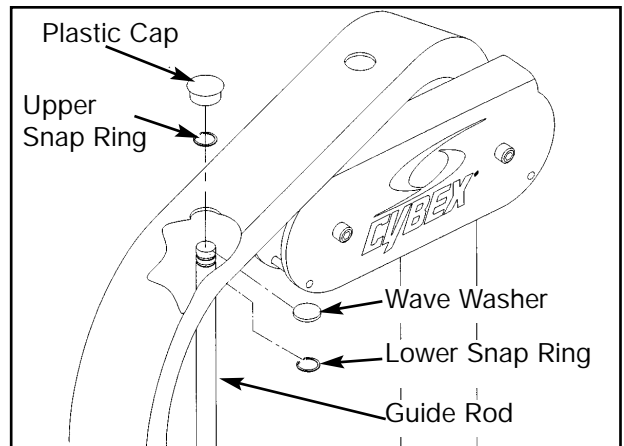

Figure 2
- B. Remove the plastic cap on guide rod hole by gently lifting guide rod up and down until plastic cap is forced off. Repeat this step for the other guide rod. See Figure 2.
- C. Raise guide rod high enough to expose the upper snap ring. Using an external snap ring pliers, remove snap ring and lower guide rod. Then remove the lower snap ring and wave washer. Repeat this step for the other guide rod. See Figure 2.
- D. Lean guide rod toward weight stack guard . **NOTE:** For the Hip Abduction, Hip Adduction and Rotary Calf machines, lean guide rod away from the weight stack guard. See Figure 2.